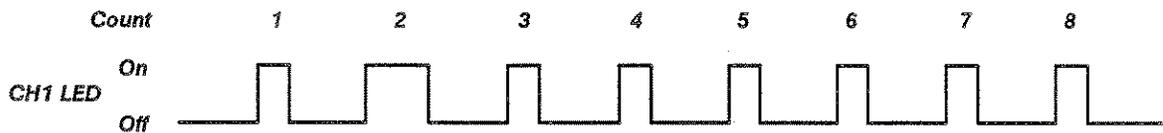

Figure 3-9 — Sample LED Fault Code Timing Diagram
- If the amplifier Kernel Tests detect a fault, then the CH 1 LED is flashed eight times to display a fault code. Each time the CH 1 LED turns on, count the occurrences. If the CH 1 LED is lit twice as long (that is, during one cycle, CH 1 is lit for twice the normal pulse width), then the test corresponding to the current count accumulated is the one which failed. Refer to the timing diagram in Figure 3-9 for an example LED fault code. The timing diagram illustrates a test number 2 failure.